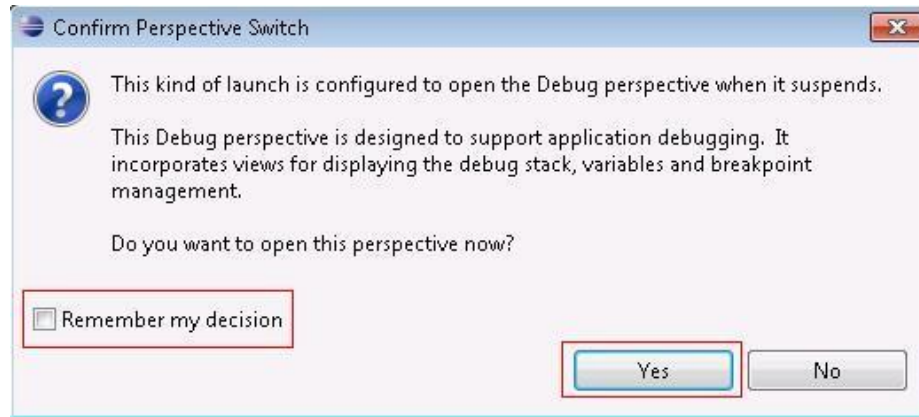

Figure 3-6: Creating debug configuration: Perspective switch
- If a “Confirm Perspective Switch” popup window (as shown below) appears, select “Yes” to switch to the Debug perspective. The “Remember my decision” checkbox can be ticked to prevent this popup from appearing in subsequent debug sessions. See Figure 3-6.